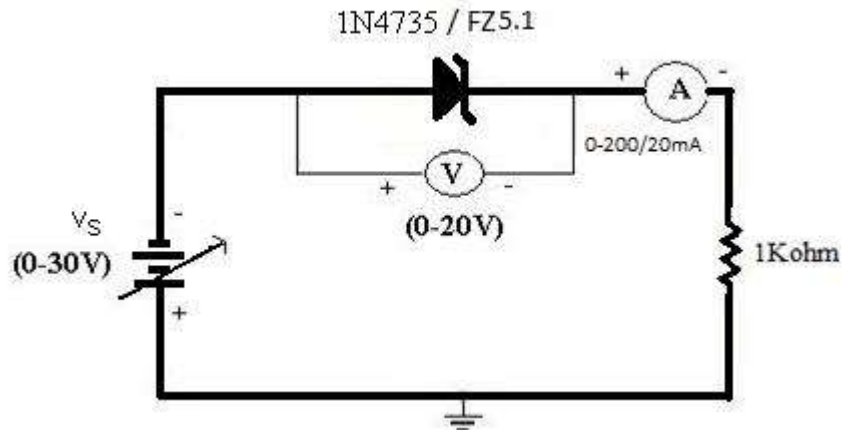

Fig. 2: Reverse Bias Condition
1. Connect the diode in the reverse bias as shown in the Fig.2.
1. Connect the Zener diode in reverse bias as shown in the fig.2. Vary the voltage across the diode in steps of 1V from 0 V to 6 V and in steps 0.1 V till its breakdown voltage is reached. In each step note the current flowing through the diode